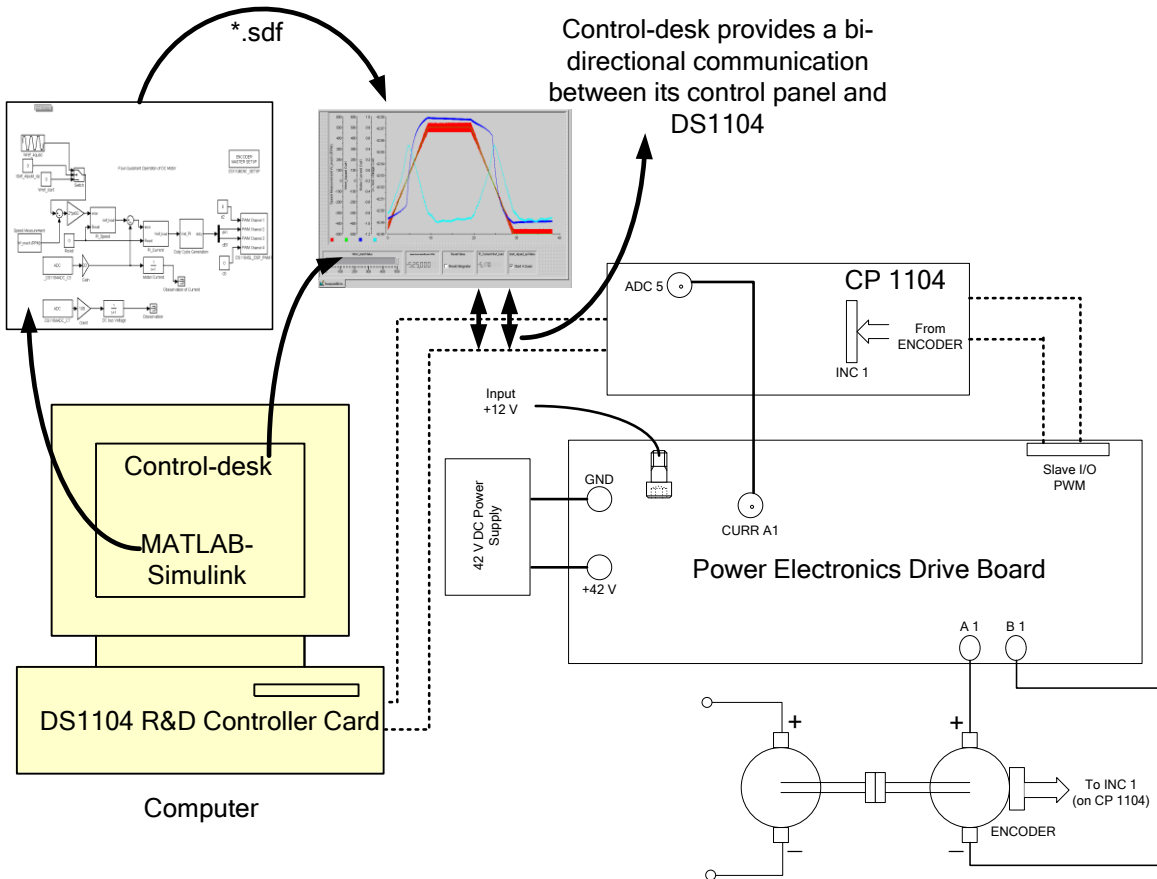
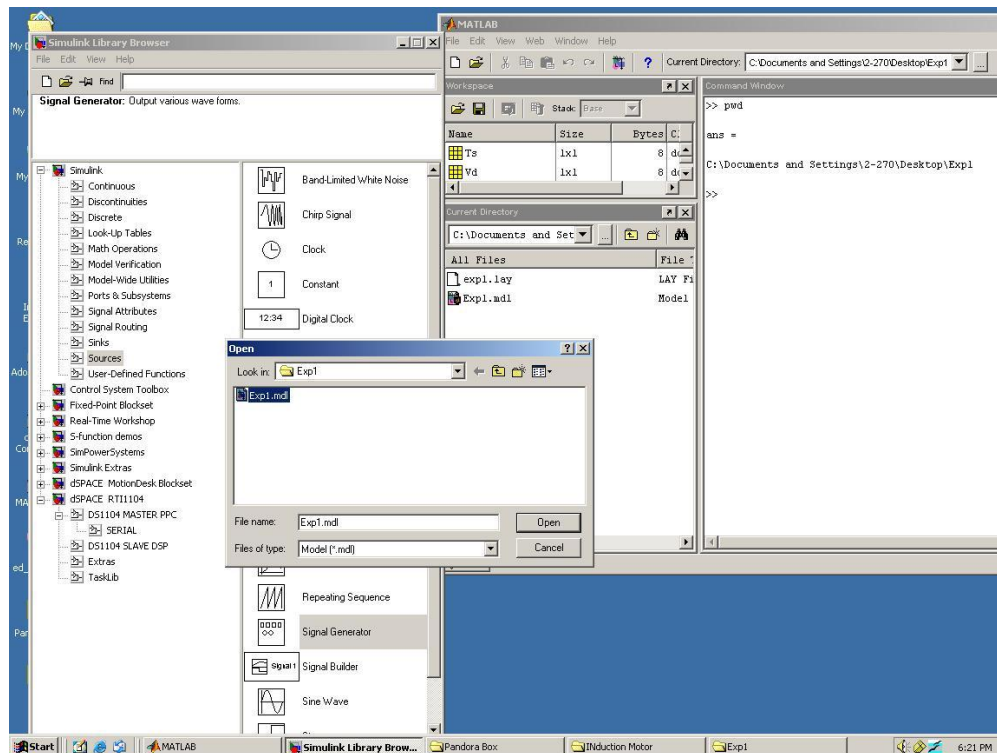

Figure 1.3: Demonstration of DC motor speed-control
Figure 1.4: Opening the Simulink file Exp1.mdl, changing the path of current working directory
- *MATLAB Simulink and Control-desk (Programming DS1104 and control in real-time):* Simulink is a software program with which one can do model-based design such as designing a control system for a DC motor speed-control. The I/O ports of CP 1104 are accessible from inside the Simulink library browser. Creating a program in Simulink and the procedure to use the I/O port of CP 1104 will be detailed in future experiments. At this stage, let us assume that we have created a **control-system** inside the Simulink that can control the speed of a DC motor. When you build the Simulink **control-system** (pressing CTRL+B) by using real-time option, it implements the whole system inside the DSP of DS1104 board, i.e. the **control-system** that was earlier in software (Simulink) gets converted into a real-time system on hardware (DS1104). Simulink generates a \*.sdf file when you build (CTRL+B) the **control-system**. This file gives access to the variables of **control-system** (like reference speed, gain, tuning the controller etc) to a separate software called Control-desk. In this software a control panel (see Fig 1.3) can be created that can change the variables of **control-system** in real time to communicate with DS1104 and hence change the reference quantities such as the speed or torque of the motor.
The system for the speed-control of a DC motor is shown in Fig 1.3. Note that the currA1 (i.e. phase-current of DC motor) and encoder signal (speed of DC motor) is fed back to the DS1104 board via CP 1104. The requirement of feeding back phase-current and speed of the motor will be studied in experiment-4. For now, assume that these two quantities are required to control the speed of DC motor. Perform the following steps to run the experiment. The communication between the four components (explained in section 1.2) is detailed in each step, wherever necessary.
- Connect the circuit as shown in Fig 1.3. You are given with files **Exp1.mdl** (Simulink **control-system** file) and **Exp1.lay** (control panel in Control-desk). Create a new folder on desktop as **Exp1** and bring these two files into that folder. Open MATLAB Simulink and set the folder **Exp1** as the path of the current working directory. Verify in the command window for the correct path (Fig 1.4). Open the Simulink file **Exp1.mdl** as shown in Fig 1.4.